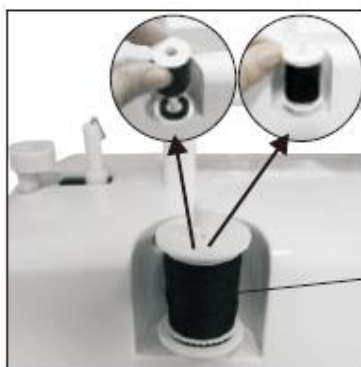

Fig.20
1. Put a spool of thread on spool pin. (Fig.20)